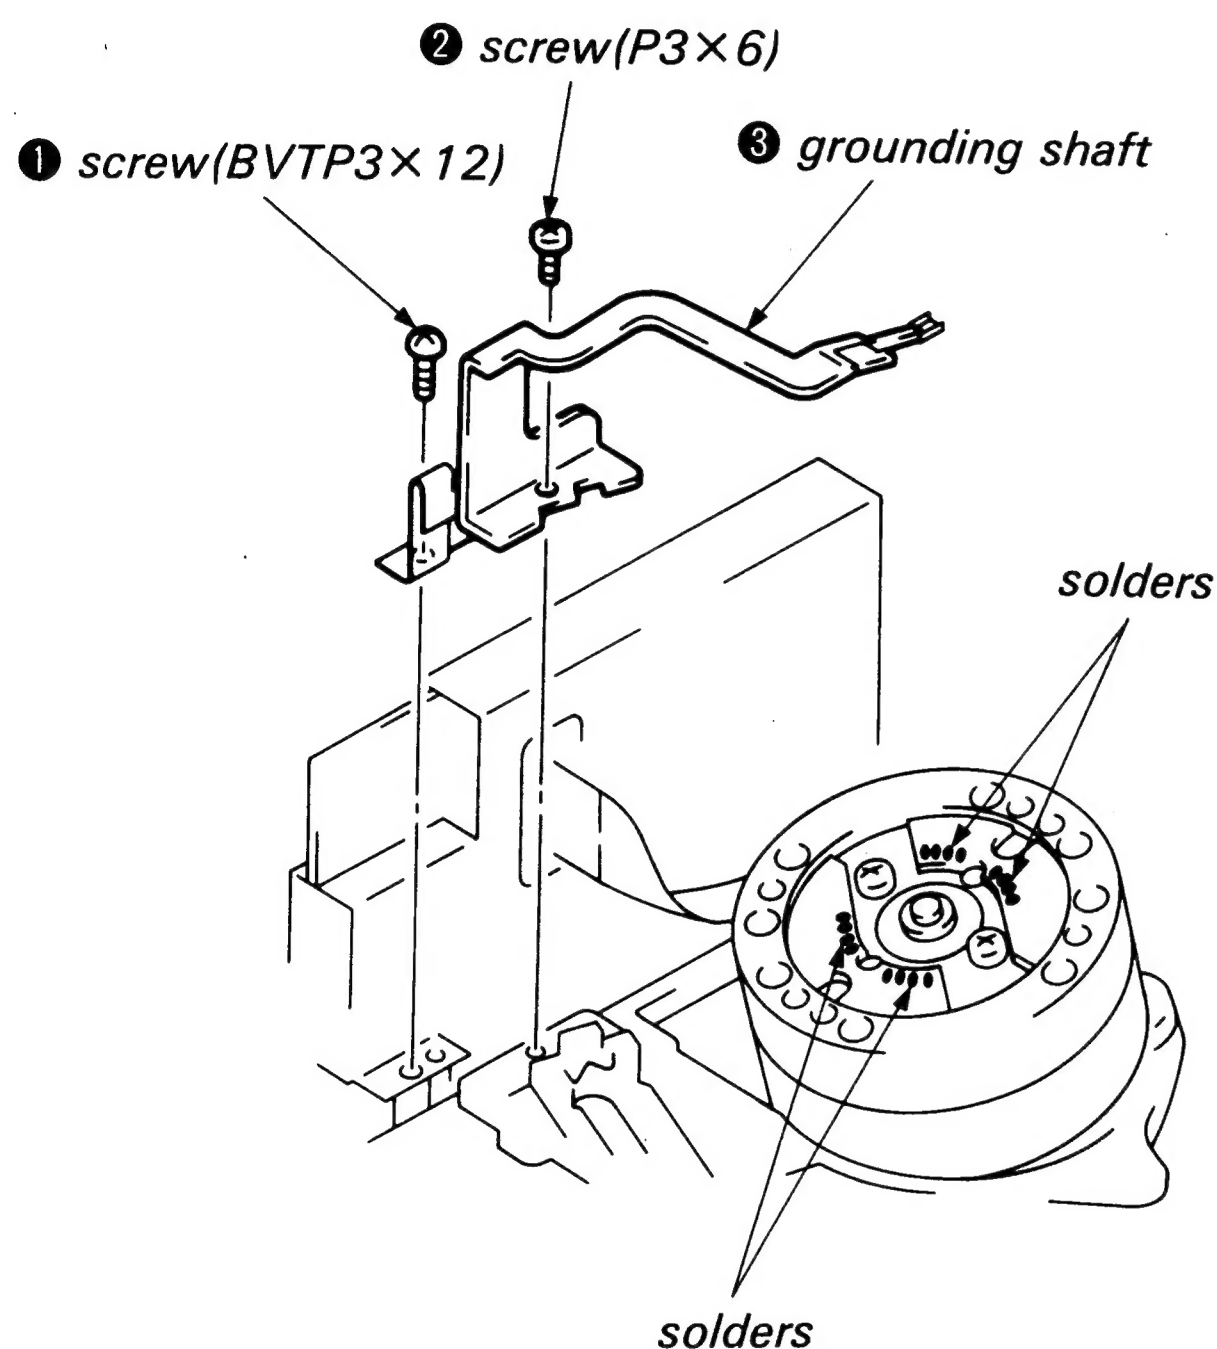
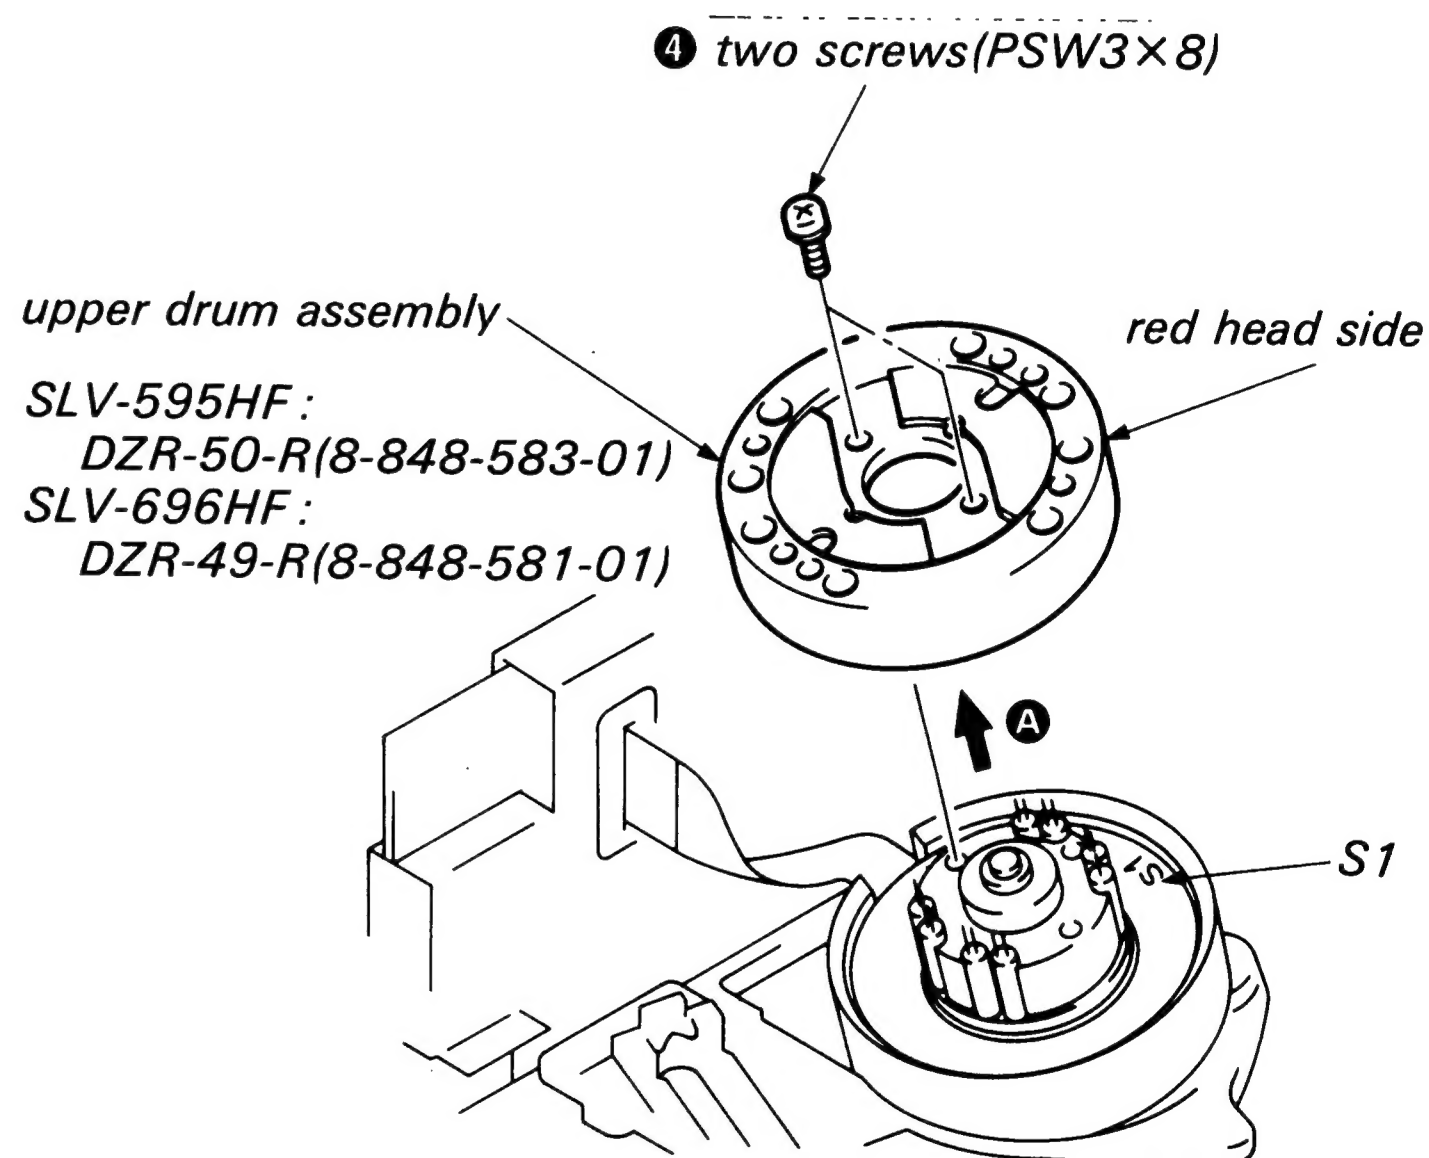

Fig. 4.
Fig. 5.
- 1) Remove the screw ❶ (BVTP3×12). (See Fig. 4.)
- 2) Remove the screw ❷ (P3×6) and take out the grounding shaft ❸. (See Fig. 4.)
- 4) Remove two screws ❹ (PSW3×8) and take out the rotary upper drum in the arrow direction A. (See Fig. 5.)
- 2) Mount the rotary upper drum by aligning red head side with marked S1 of rotary transformer board(lower drum) so that the screw holes of both upper and lower drums match. (See Fig.5.)
- 4) Tighten two screws ❹ (PSW3×8). (See Fig. 5.)
- 6) Fix the grounding shaft ❸ using the screw ❷ (P3×6) so that the protrusion of grounding shaft end contacts the center of the drum shaft.
**Note:** When attaching the grounding shaft ❸, be careful not to apply force to the spring section of it.
- 7) Tighten a screw ❶ (BVTP3×12). (See Fig. 4.)